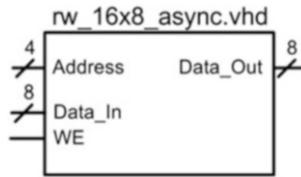

Fig. 11.4
11.3.1 Design a VHDL model for the 16 × 8, asynchronous, read/write memory system shown in Fig. 11.4. Create a test bench to simulate your model. Your test bench should first read from all of the address locations to verify they are uninitialized. Next, your test bench should write unique information to each of the address locations. Finally, your test bench should read from each address location to verify that the